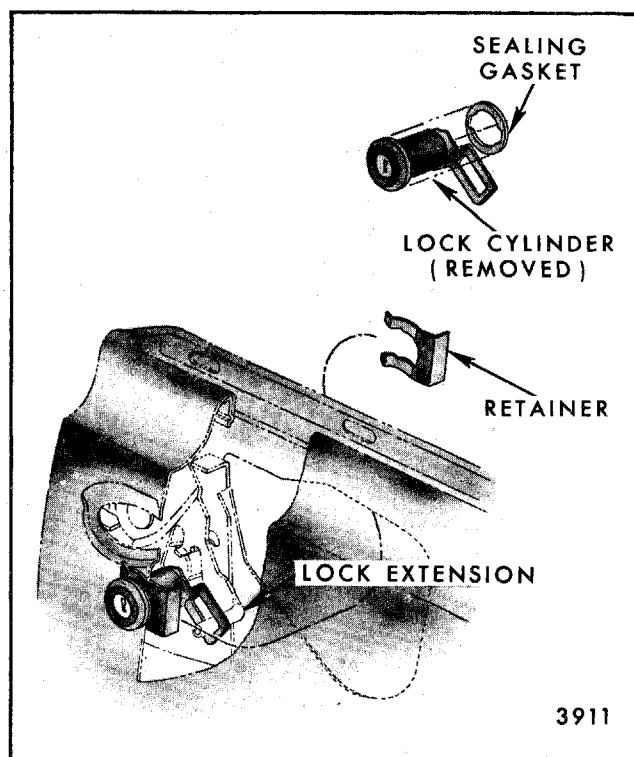

Fig. 5-46-Door Lock Cylinder Removal
2. With a screwdriver or other comparable tool, slide lock cylinder retaining clip (on door outer panel) out of engagement and remove lock cylinder from door (Fig. 5-46).